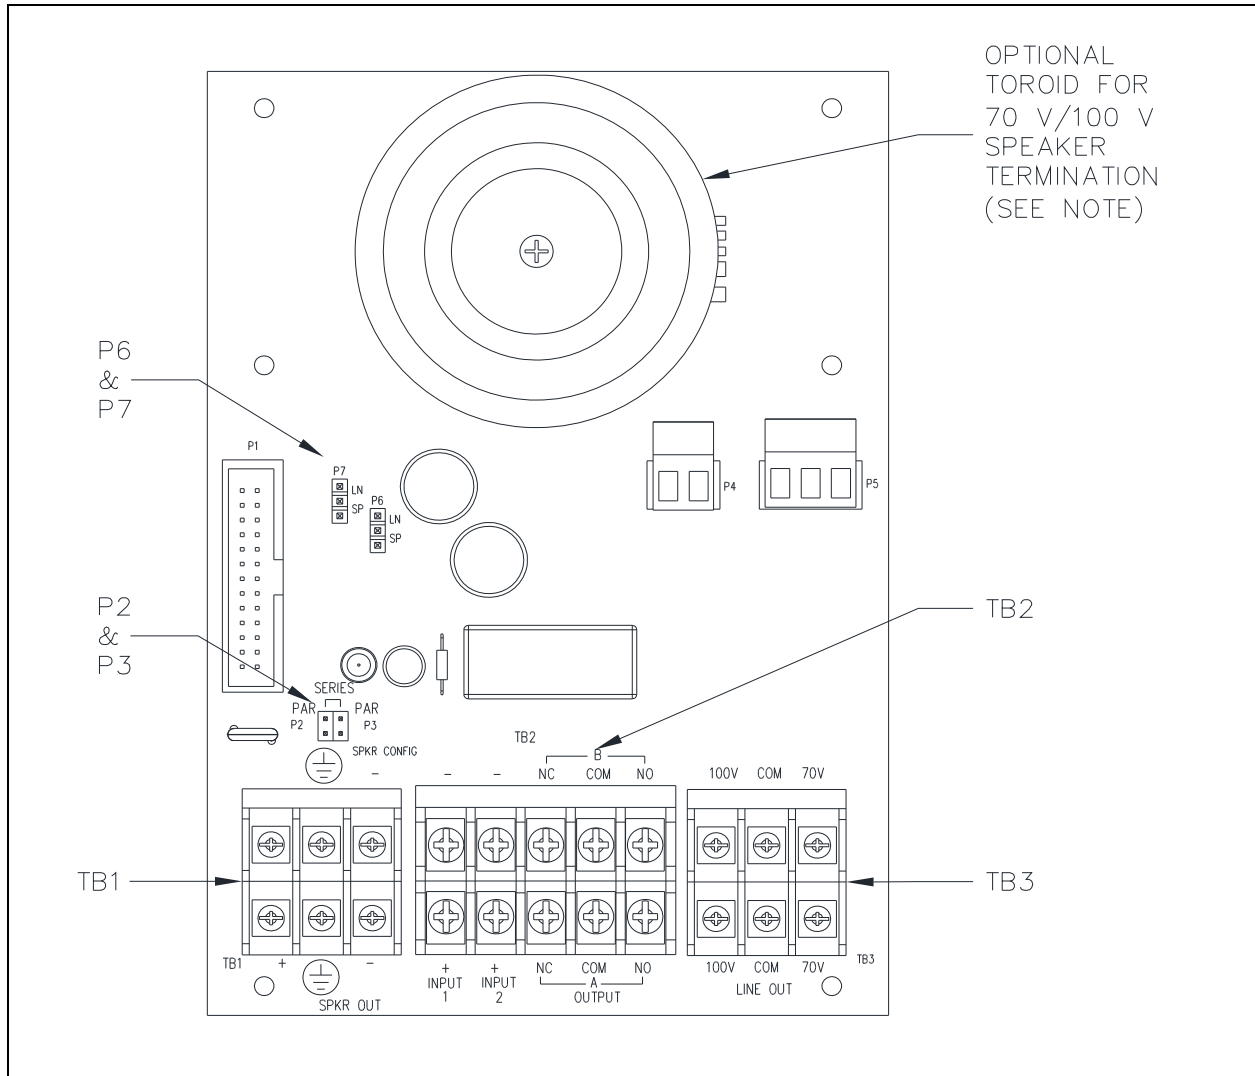
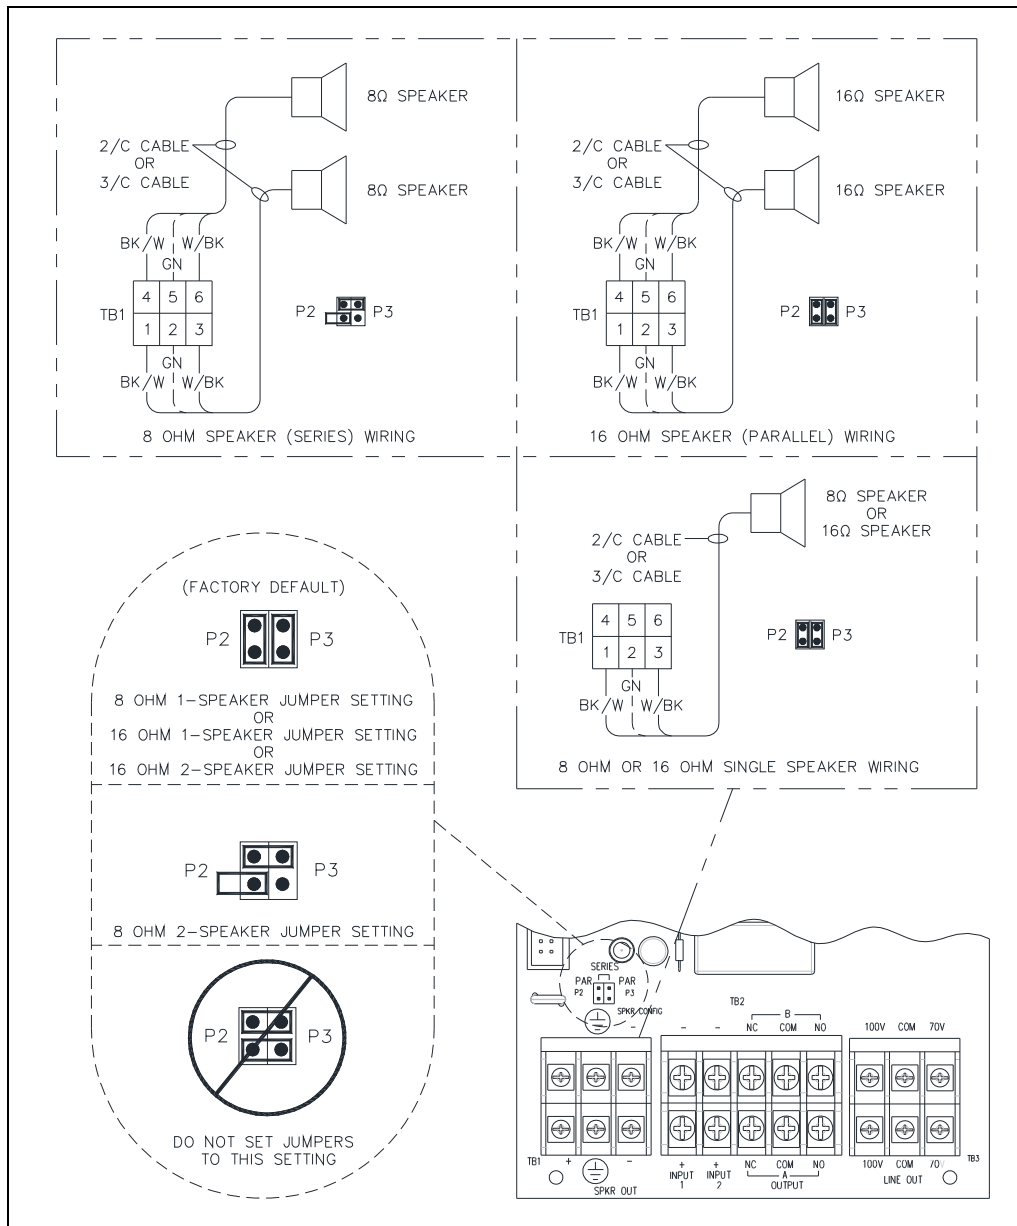
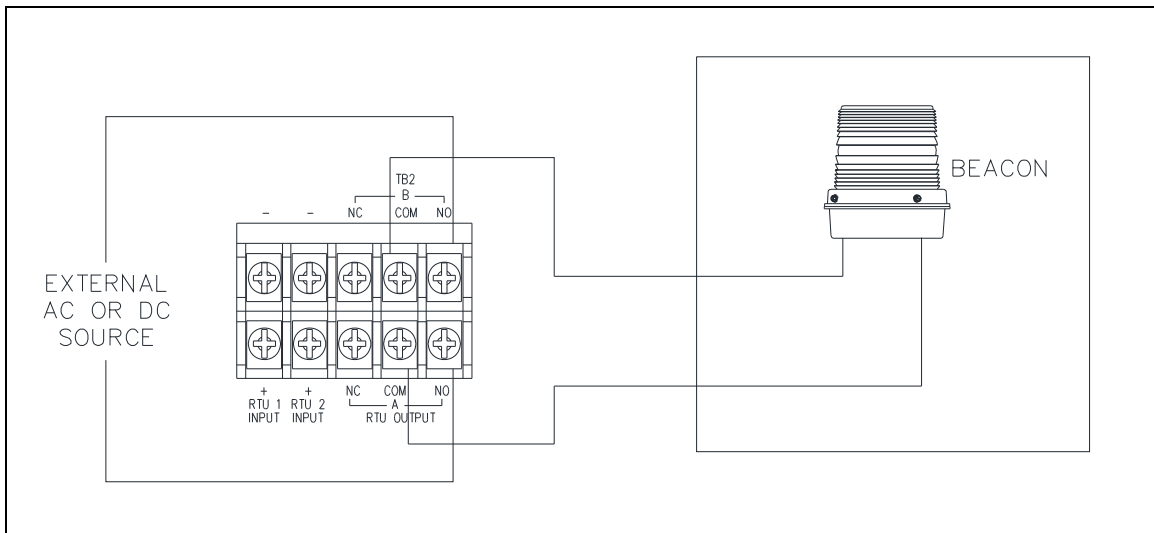

Figure 4. SP2 Termination PCBA (POE Stations)
Figure 5. 8/16-ohm Speaker Impedance Configuration
Figure 6. RTU Output Wiring—TB2
5. Configure the speaker jumpers; P2 and P3, for the appropriate impedance for use with 8-ohm or 16-ohm speakers (see Figure 4 and Figure 5).
6. Configure the LN/SP jumpers P6 and P7 by placing both jumpers in the SP position (see Figure 4).
The termination PCBA contains two unsupervised auxiliary RTU inputs. Terminate these inputs at terminal block TB2 (see Figure 4).
A single output relay provides two form C contacts to switch external power to a beacon. (see Figure 6). Terminate this output at terminal block TB2 (see Figure 4).
3. Connect the RTU output and power source wires to terminal block TB2 (see Table 3 and Figure 6).
Terminal block TB3 permits connection of 70-volt and/or 100-volt speaker arrays to the station. Wire all speakers in parallel (see Figure 4 and Table 4).
5. Configure the LN/SP jumpers P6 and P7 by placing both jumpers in the LN position (see Figure 4).